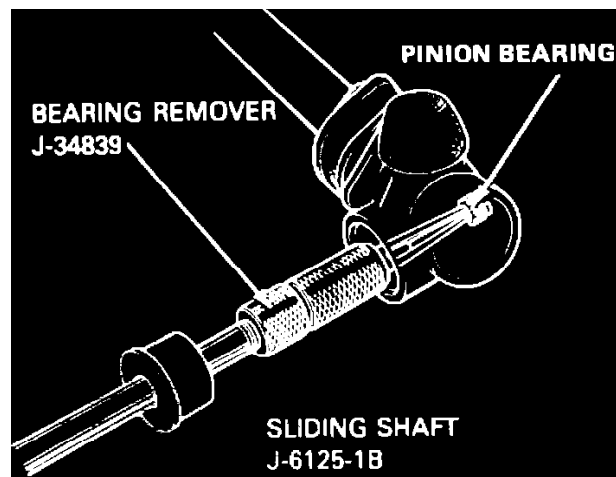

Fig. 6 Removing pinion bearing
2. Remove pinion bearing using tools J-34839 and J-6125-1B, as shown in **Fig. 6**.